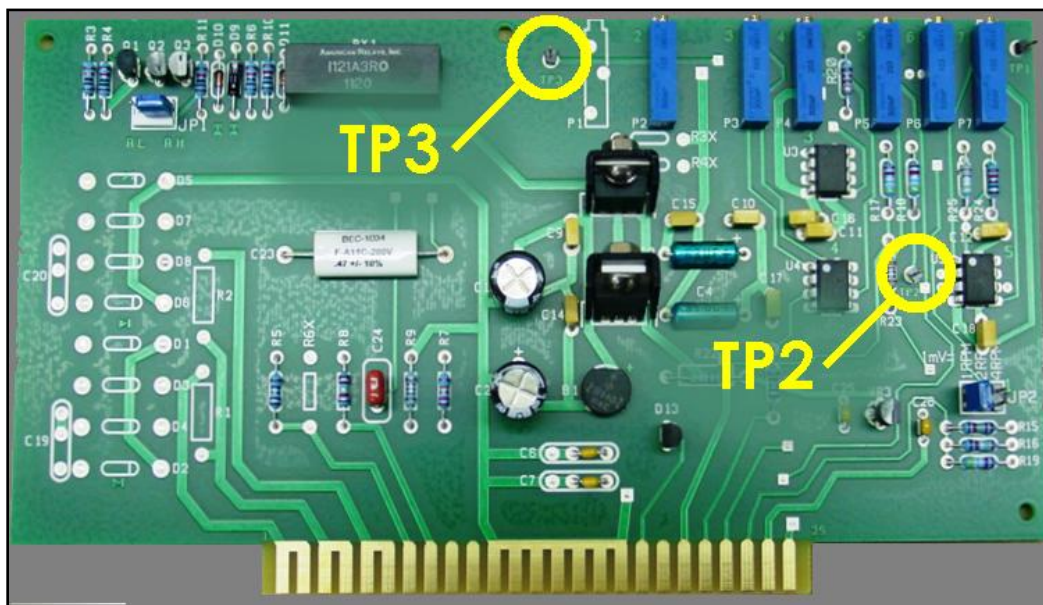

Figure 2-4. Location of Test Points on the AFMSRCE Control Unit Circuit Board
9. Locate test points **TP2** and **TP3** on the circuit board. These test points are accessible without the need to remove the circuit board from the control unit (see Figure 2-4).